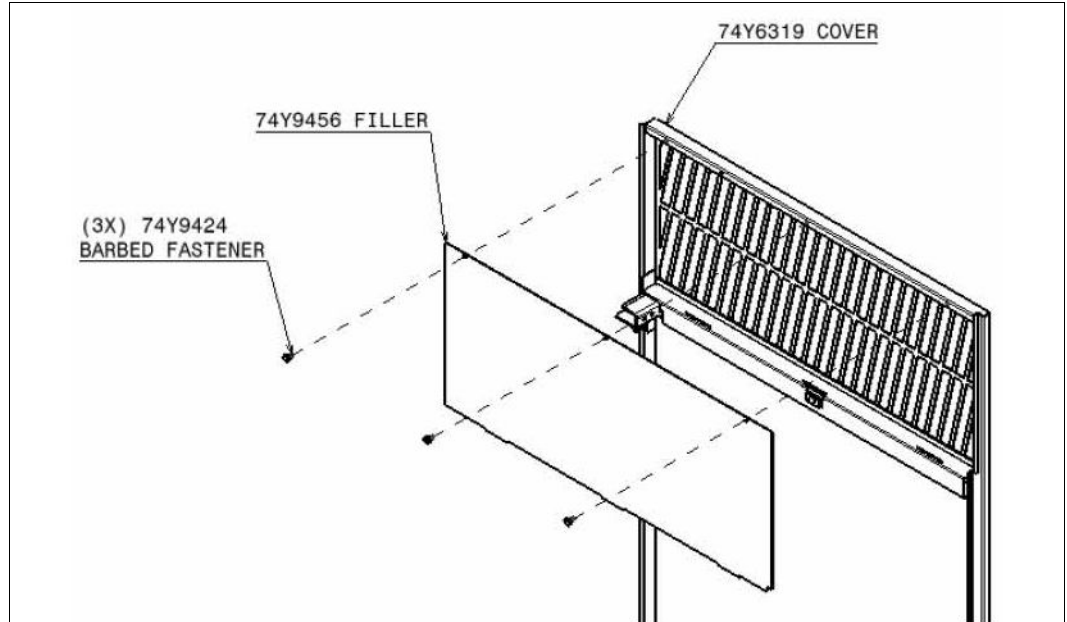

Figure 1-47 Full filler installation on front right (latch side) cover when an I/O enclosure is not installed
1. Install the filler panel (part number 74Y9456) on the front right (latch side) cover (part number 74Y6319). See Figure 1-47.